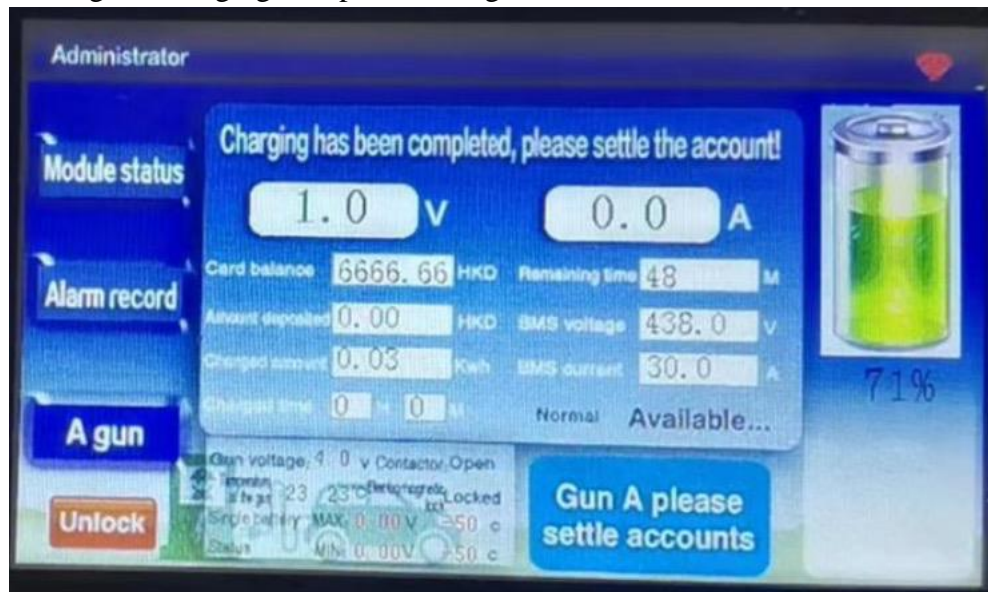

Figure 6-2-3
- 3) While in the charging state, clicking the "Gun A Stop charging" button on the display screen concludes the charging operation. When the battery is fully charged, the charging station automatically stops the charging process. The settlement interface after ending the charging is depicted in Figure 6-2-3.